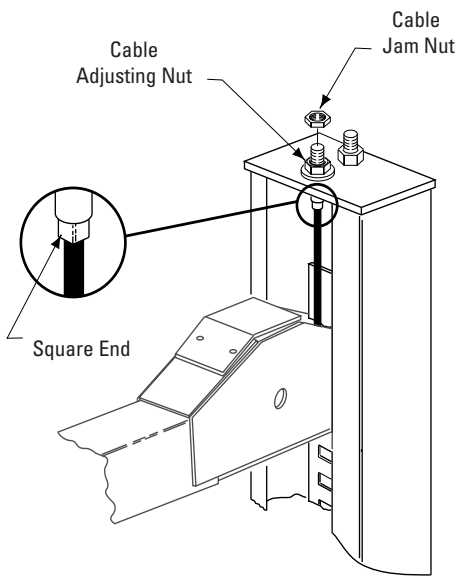

Fig. 31
1. Starting with the right front column: use a straight edge to mark the yoke height on the column, Fig. 31.
locking latch bar, adjust the cable stud. Loosen cable jam nut, Fig. 31, and turn adjusting nut to raise the locking latch 2" above bottom of latch bar slot. Tighten cable jam nut. Lower lift and remove vehicle.